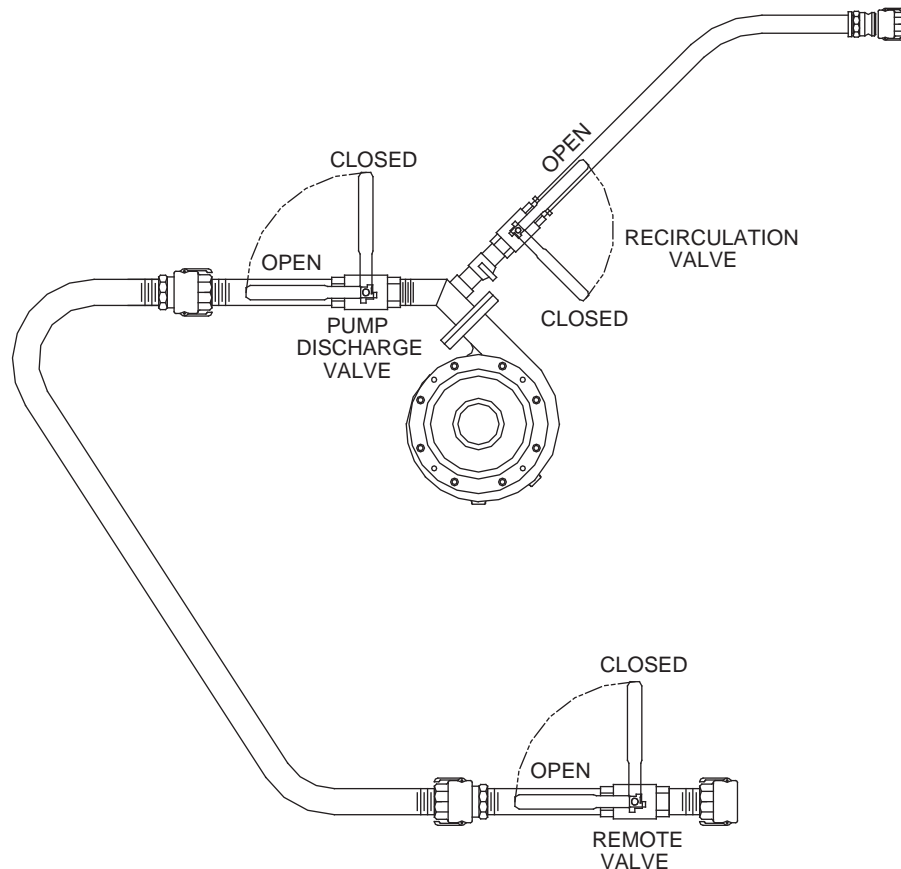

Figure 2 – Valve Operation
1. Discharge hoses: Discharge hoses are available in 50 ft. (15 m) and 100 ft. (30 m) lengths, up to a total of 150 ft. (45 m). Hoses of a greater length may adversely affect the discharge distance and the discharge time of the HydroSeeder®. All connections are camlock quick-operating fittings, including the connection to the end of the discharge piping. A nozzle is connected to the remote discharge valve which is connected to the working end of the discharge hose. Once everything is connected, the HydroSeeder® is ready to operate. Flow through the hose and nozzle is controlled by the operation of the remote discharge valve. When using this valve, the recirculation valve on the HydroSeeder® MUST BE OPEN to allow excess material flow back into the tank when the remote valve is closed (see VALVE OPERATION section and Figure 2).
The base HydroSeeder® is equipped with three independently operated ball valves to control slurry flow (Figure 2). The first valve is the recirculation valve. An open recirculation valve allows excess material flow back into the tank. The second valve is the pump discharge valve. An open pump discharge valve allows slurry to flow through the discharge hose. The third valve, located at the end of the discharge hose, is the remote valve. An open remote valve allows discharge of the slurry onto the area being covered.